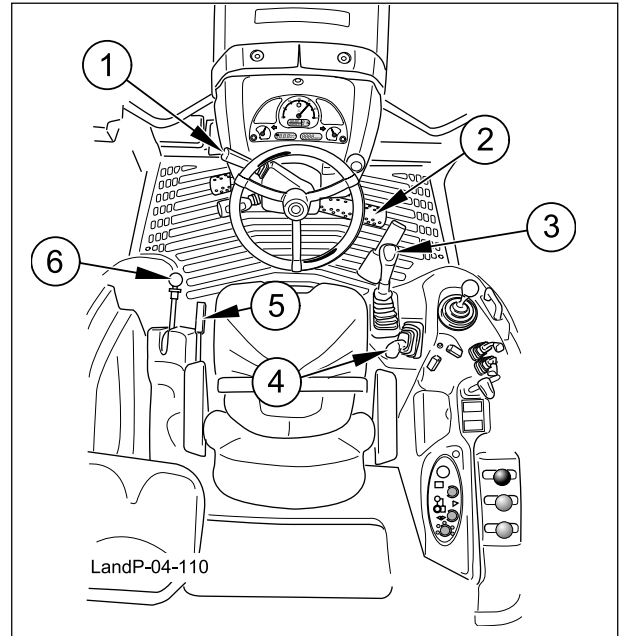
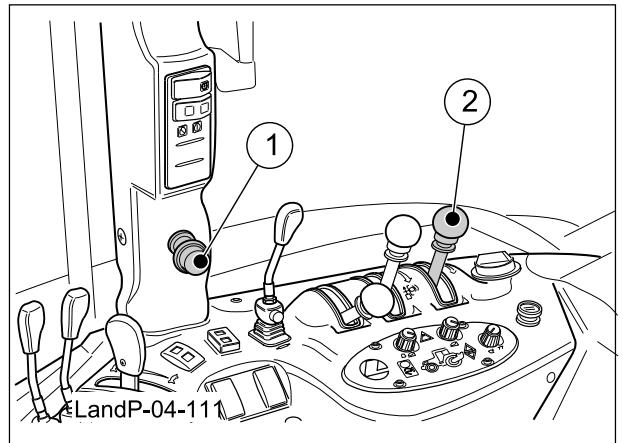

Fig.4-110
Fig.4-111
Put the following controls in NEUTRAL (Fig. 4-110 and 4-111):
- 1- Reverse shuttle lever (1 - Fig. 4-110)
- 2- Gearshift lever (3 - Fig. 4-110)
- 3- Range selector lever (4 - Fig. 4-110)
- 4- (With **Top-Tronic** only) Disengage the Park Lock (6 - Fig. 4-110)
- 5- Disengage the parking brake (5 - Fig. 4-110)
- 6A- Electrohydraulic PTO - Ensure that the PTO engagement switch (1 - Fig. 4-111) and the selector lever of the PTO speed are in disengaged position (2 - Fig. 4-111).
- 6B - Mechanical PTO - Make sure that both the PTO engagement lever (6 - Fig.4-110) and the PTO speed selection lever are disengaged (2 - Fig.4-111).
- Slow and stop the tractor with the brake pedals latched together (2 - Fig. 4-110)
Engage the parking brake (5 - Fig. 4-110).
Engage the Park Lock (with **Top-Tronic** only) (6 - Fig. 4-110).